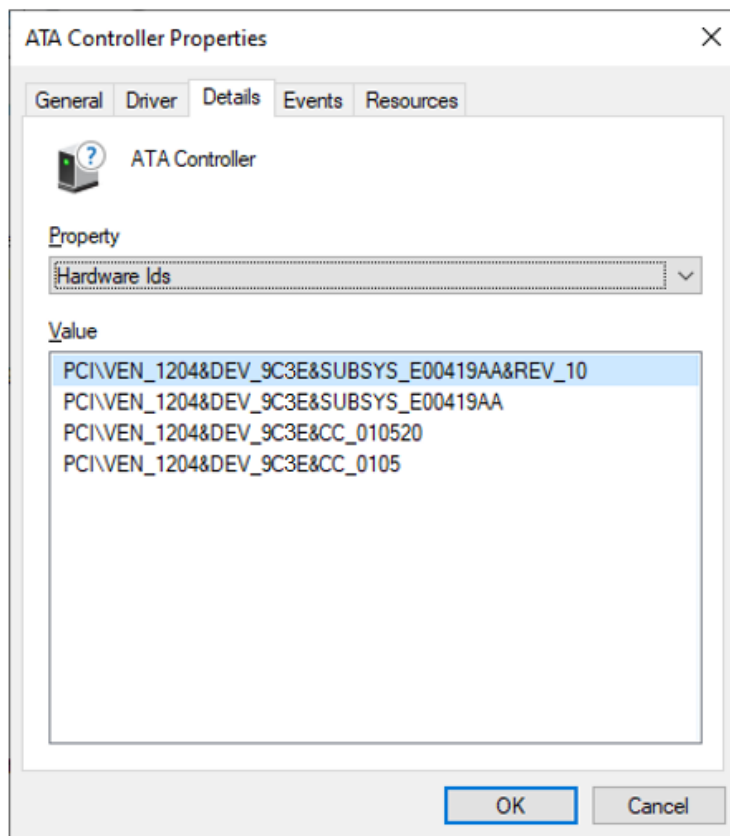

Figure 3.35. Hardware IDs of CertusPro-NX DMA Throughput Demo Device
- For CertusPro-NX family, the Hardware IDs of the Base System Device for the DMA Throughput Demo is PCI\VEN_1204&DEV_9C3E&SUBSYS_E00419AA as shown in Figure 3.35.